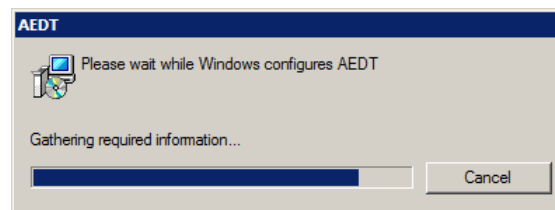

Figure 2-33 Configuration Status
4. A dialog box will appear with the configuration status. It will remain open until the uninstallation is complete (Figure 2-33).